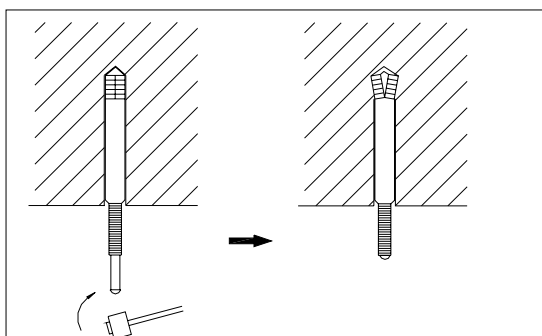

Figure 1-1-1
c. Insert a M10 expansion bolt into the hole. Drive a nail into the bolt. Refer to the profile dimensions drawing of the indoor unit for the distance between the holes. Refer to Figure 1 for the installation of the expansion bolt, as Figure 1-1-1 shows.